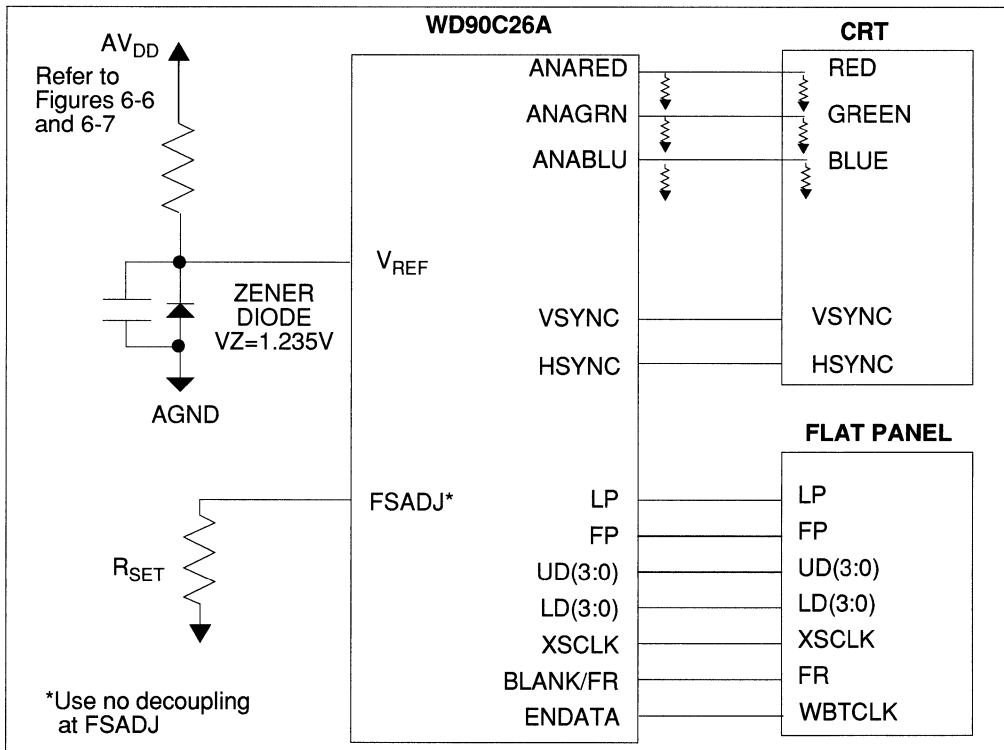

FIGURE 6-30 EXAMPLE OF CRT INTERFACE SHOWING V_{REF} AND FSADJ CIRCUITS
- Calculating the R_{SET} Value (Figure 6-30)